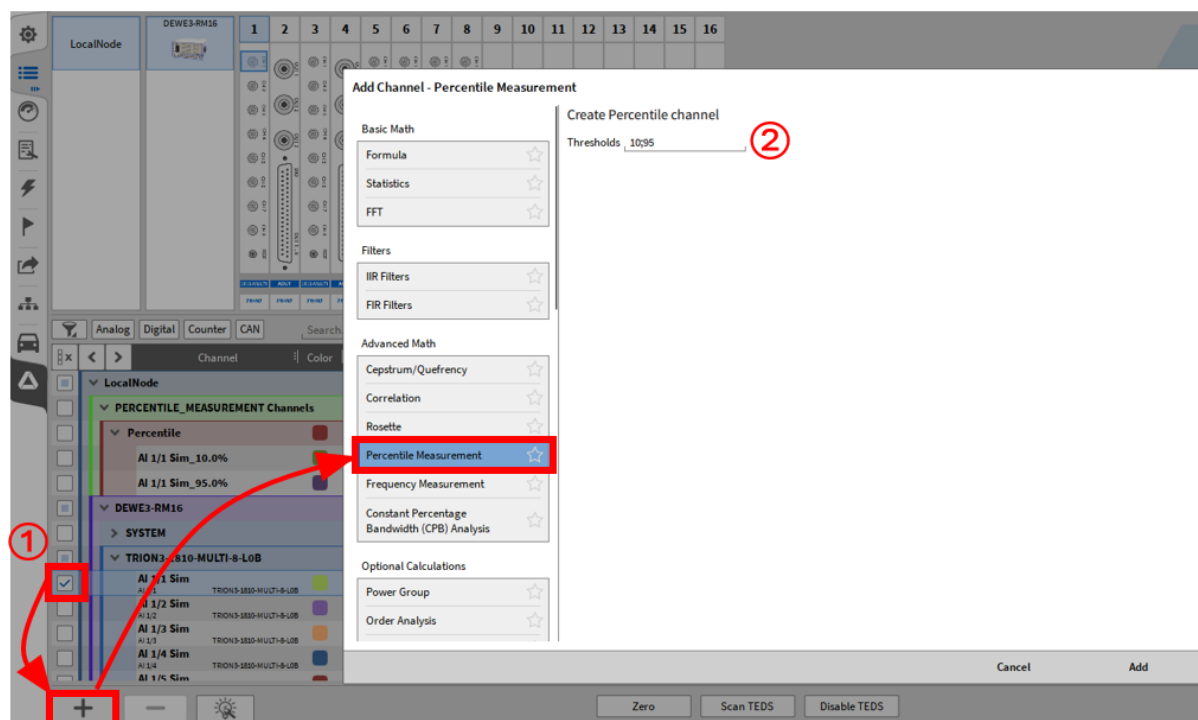
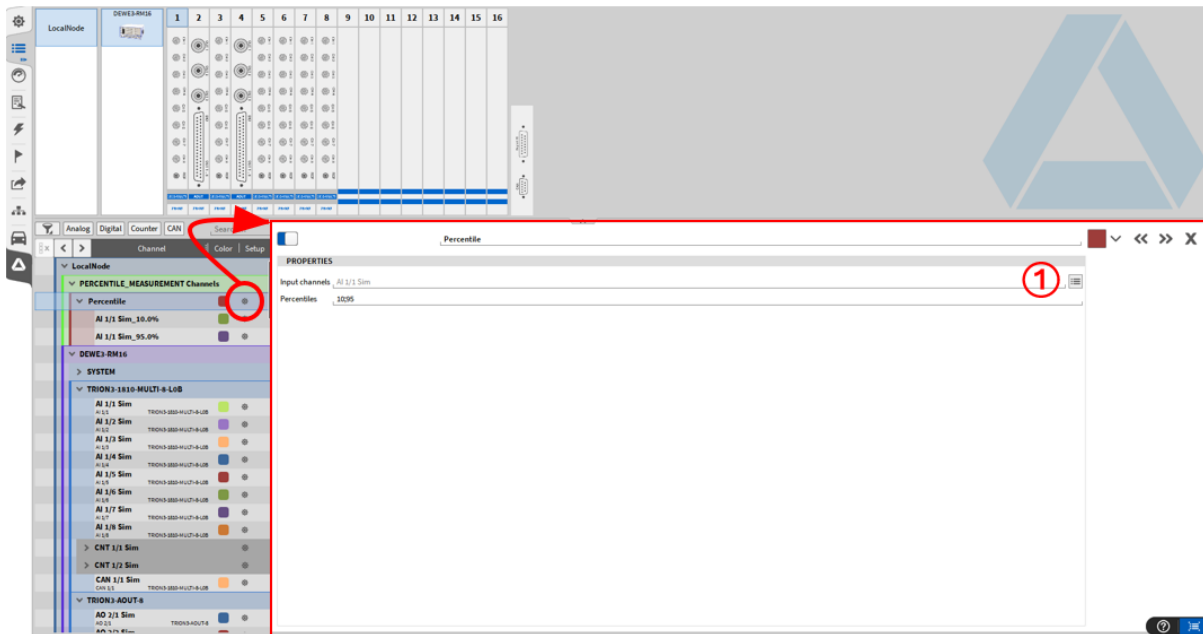

Fig. 7.123: Add a percentile measurement
Fig. 7.124: Subsequent changes to the percentile measurement
To create one or more channels for a percentile measurement, click on the + button in the bottom left corner of the channel list. A pop-up window appears in which the percentile measurement must be selected in the list (see Fig. 7.123). One or more channels must be selected in the channel list before clicking on the + button (see ① in Fig. 7.123). It is also possible to add channels for the measurement afterwards (see ① Fig. 7.124). You can specify 1 or more threshold values in %. When selecting multiple threshold values, the individual values must be separated by “;” (see ② in Fig. 7.123).
After clicking the Add button, a new section appears in the channel list called PERCENTILE MEASUREMENT Channels. To change the settings afterwards or to add channels or thresholds, click on the small cogwheel (see Fig. 7.124).